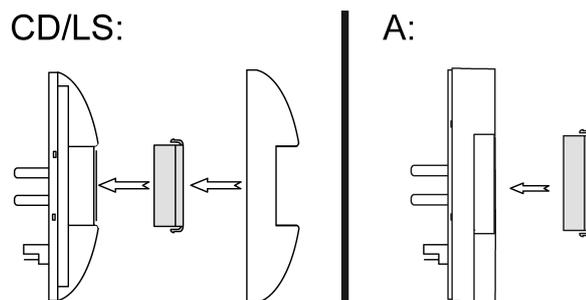

Figure 17: Mounting, cover, ranges LS/CD and A ranges
- Mount the cover for the left or right side of the device (3) (Figure 17).
- Mount the cover from the front on the left or right side of the device (Figure 17).